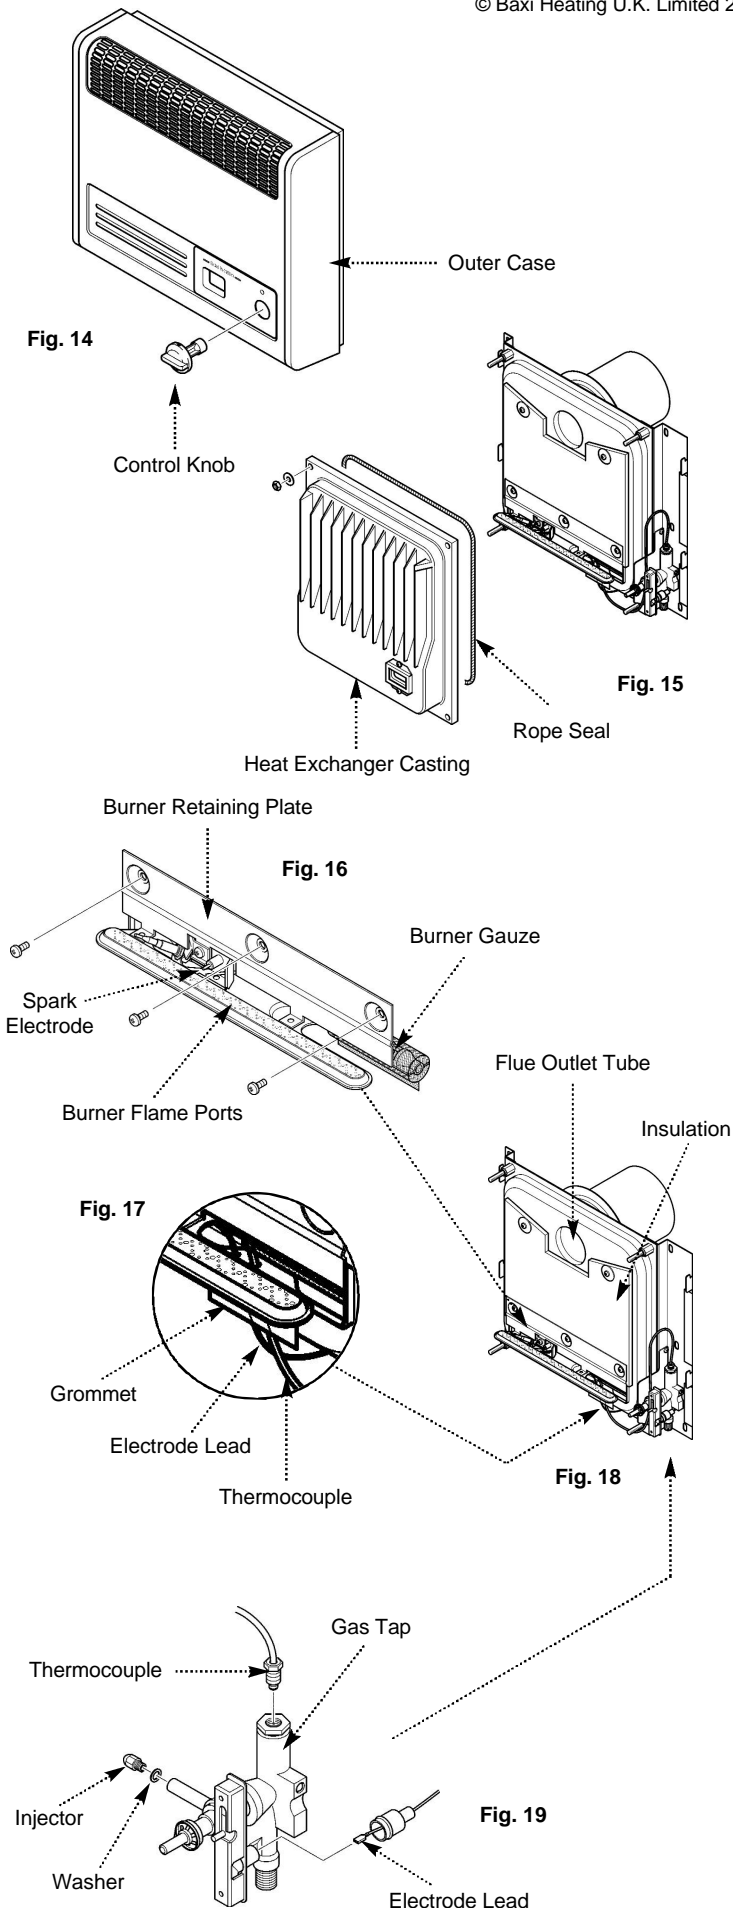

Fig. 20
3. Remove the control knob by pulling forward, then remove the case by easing upwards and forwards until it is clear of its retaining lugs (Fig. 20).